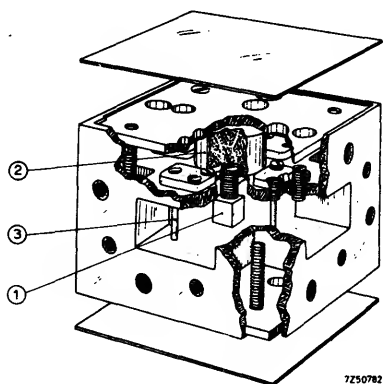

Fig. 8 Construction of a junction type waveguide circulator.
Three or four waveguides intersect at angles of  $120^\circ$  or  $90^\circ$  respectively in this type of circulator. A 4-port waveguide circulator of the junction type is shown in Fig. 8. A piece of ferrite (1) is located between two magnets (2) exactly in the centre of the intersection. Posts (3) are placed in the waveguide to achieve a good match.